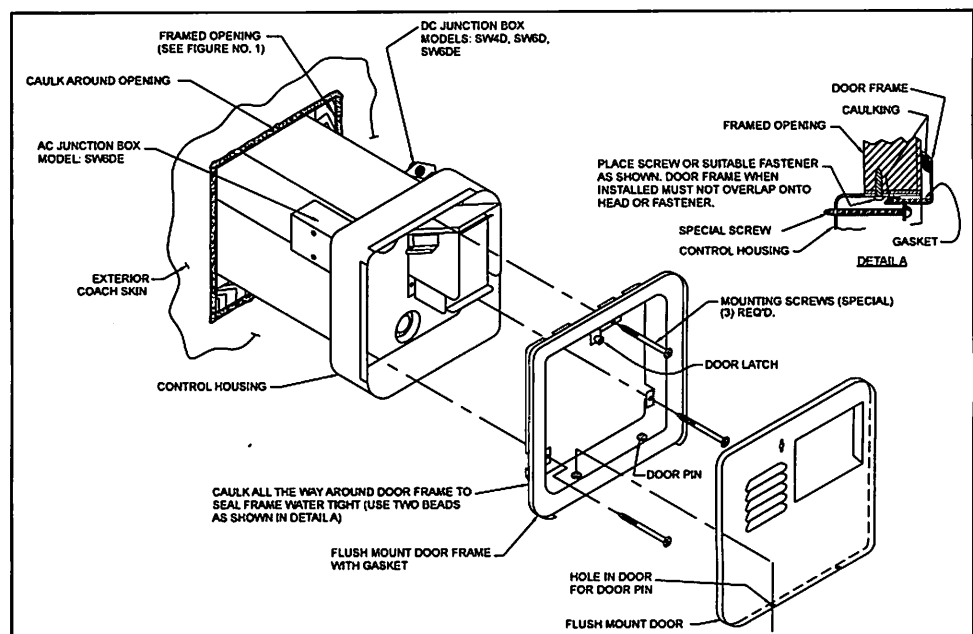
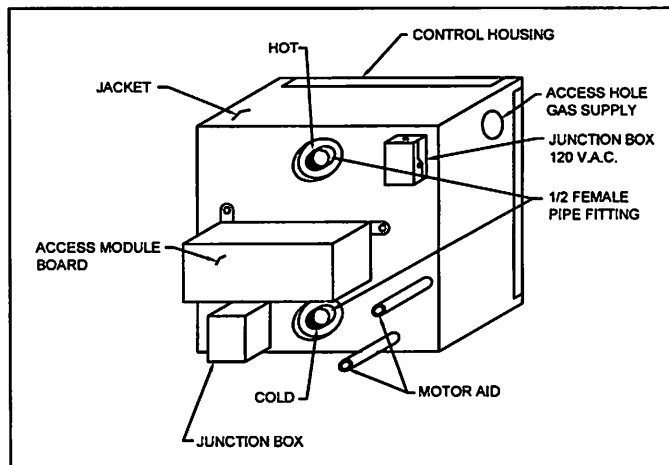

Figure 4
Figure 9
## INSTALLATION USING FLUSH MOUNT FRAME & DOOR (See Figure 4 on page 4, for illustration)
- A. Position heater into framed opening as illustrated in Figure 4. Slide unit into opening until the front of the control housing is flush with the exterior coach skin.
- E. Caulk around framed opening (trailer skin) as illustrated in Figure 4.
- F. Caulk around door frame using 2 beads of silicone caulking (or suitable caulking) - one on flange to seal to control housing and one around back side of frame to seal to coach skin. (See detail A in Figure 4).
- G. Insert door frame into control housing and secure with three (3) No. 8-15 x 3 1/2" screws provided.
B. Refer to Figure 4 for location of A.C. junction box on model SW6DE. Refer to Figure 9 for A.C. junction box on model SW6DEM.